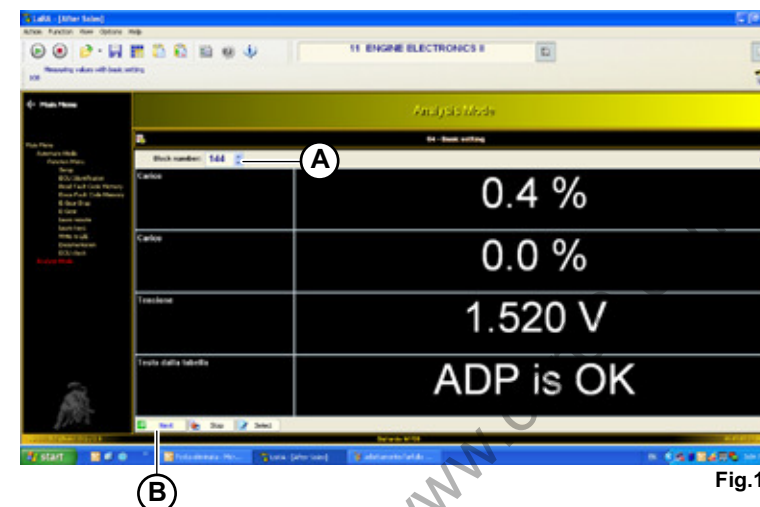

Fig.17
- Select routine 142 (load control valve adaptation MASTER "01") or 144 (load control valve adaptation SLAVE "11") inside the block number (**A-Fig.17**).
- Start the connection () and press the start push-button (**B-Fig.17**)